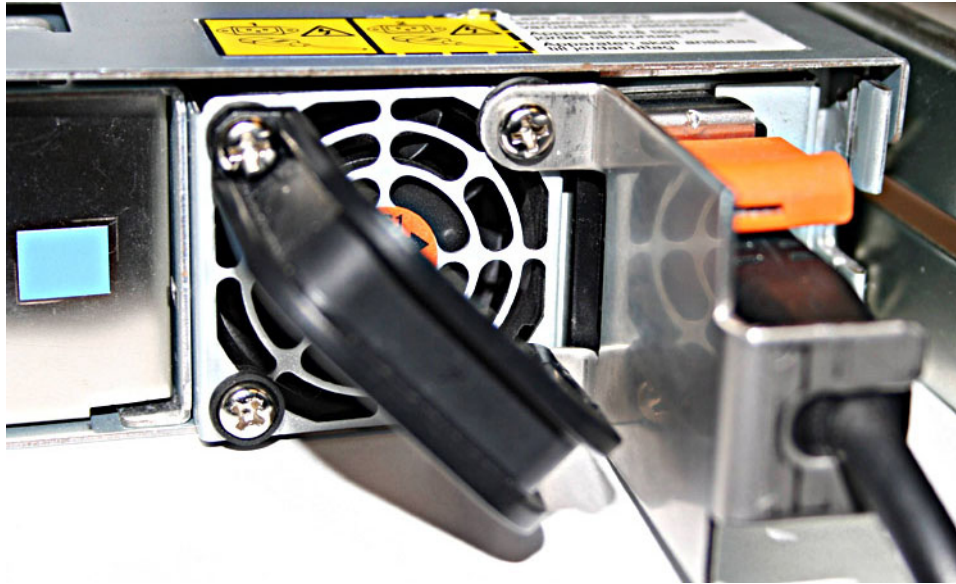

Figure 26. The SAN Volume Controller 2145-8G4 with the cable-retention bracket attached
1. Carefully remove the two retaining screws on the right side of the power supply rear plate shown in Figure 26.